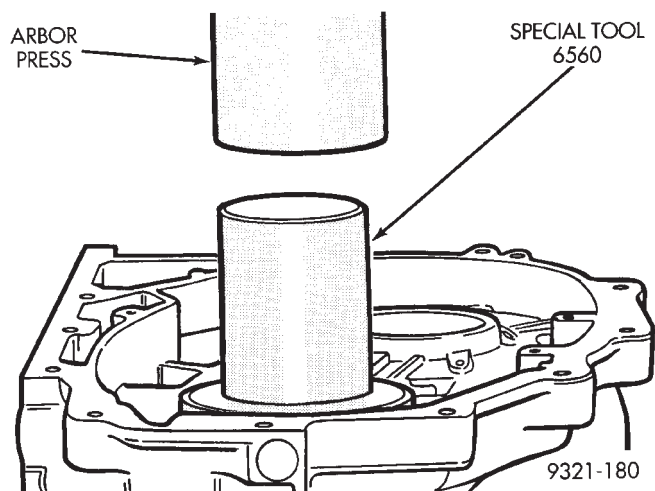

Fig. 329 Rear Transfer Shaft Cup Installation
(40) Use special tool 6560 to press cup into case (Fig. 329).